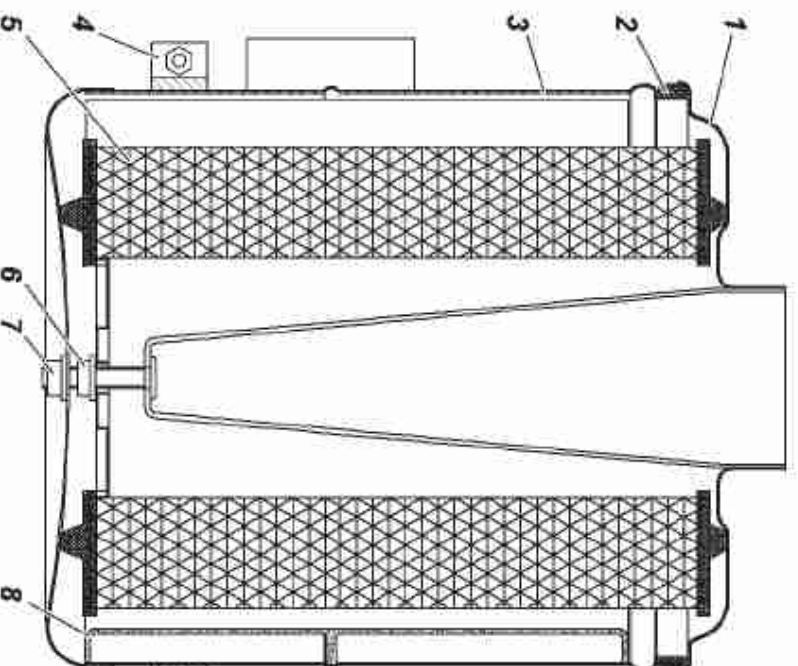

Fig. 9.9. Air filter:
- unscrew collar nut 4 (Fig. 9.9), remove collar and air filter;